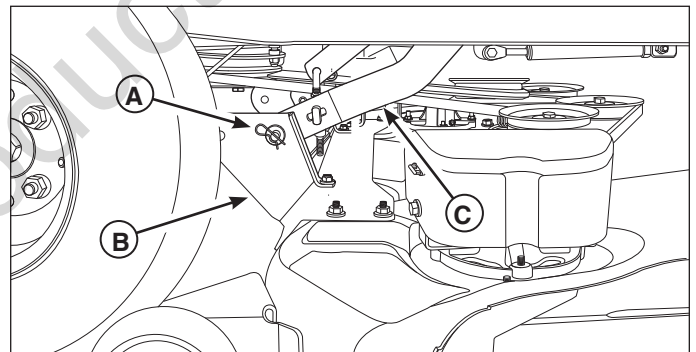

Figure 19. Rear Deck Lift Components (Right side shown, left side same)
4. Remove the hairpin clips and washers (A, Figure 19) securing the rear mower deck brackets (B) to the rear lift arms (C), and pull the arms out from the holes in the brackets. Retain all removed hardware.
5. Insert the rear lift arms (C, Figure 19) into the front holes in the rear mower deck brackets (B), and secure each with a washer and hairpin clip (A).